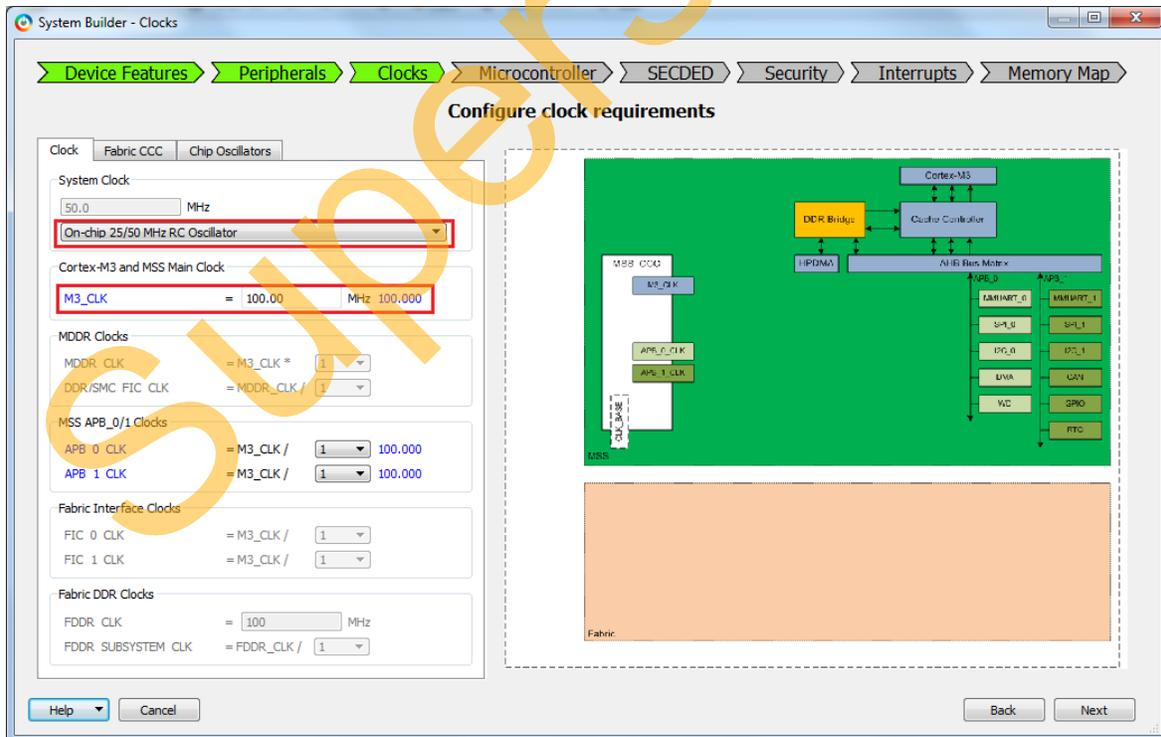

Figure 10 • System Builder – Clocks Page
- Click **Next**. The **System Builder – Clocks** page is displayed, as shown in Figure 10. Select **System Clock** source as **On-chip 25/50 MHz RC Oscillator**. The M3_CLK is configured to 100 MHz by default.